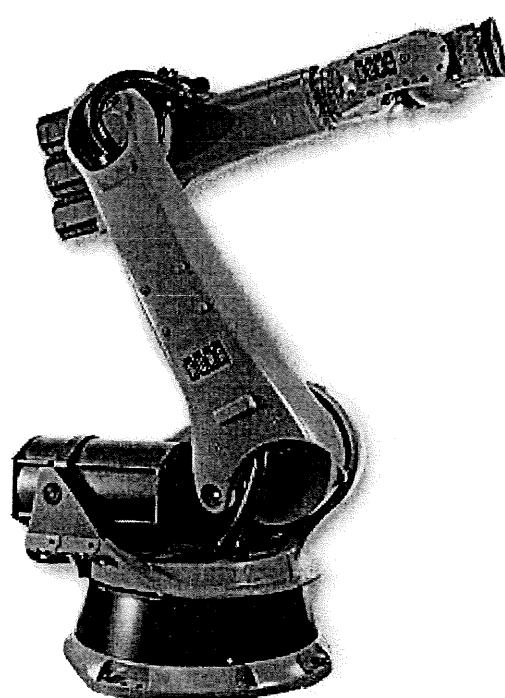

Figure 1: KUKA Robot
- a) Regarding the robotic arm shown in Figure 1, identify the links and joints of the robotic arm. (*You need to sketch for each link and joint of the robot*).